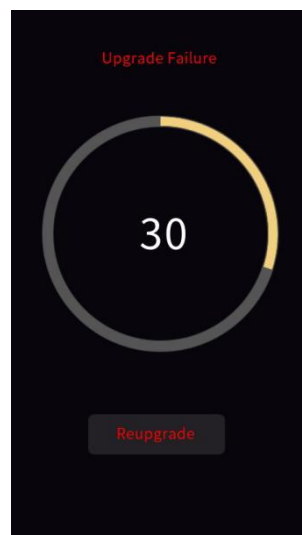

Fig.6.4
If upgrade failure, device interface as shown as Fig.6.4, please remove the SD card then insert again, click "Reupgrade" to continue upgrading.
① Only support to upgrade via MicroSD card with software package, not support with bus.
② Only support SDHC card and the format should be FAT32 (if the format is not FAT32, it need to be formatted as FAT32), and capacity not greater than 32GB.
③ During updating process, the power cannot be cut off, the power failure may cause missing UI source files. If the device is voltage failure, restart the device then the it will note upgrade failure, as shown as Fig.6.4, please remove the SD card then insert again, click "Reupgrade" to continue upgrading.
④ After the upgrade finished, it will display the corresponding UI interface, please refer to the above UI document to understand UI interface design better.
⑤ After the upgrade finished, you can refer to product manual to understand more use details.